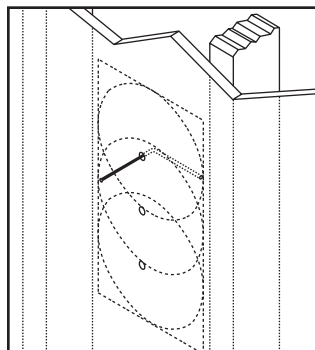

Figure 12. Using a coat hanger to check for obstructions behind the wall speaker site.
3. *Cut a foot-long piece of coat hanger and bend it to create a right angle. Poke the “L-shaped” wire into the pilot hole and turn it in a complete circle, as shown in **Figure 12**.*